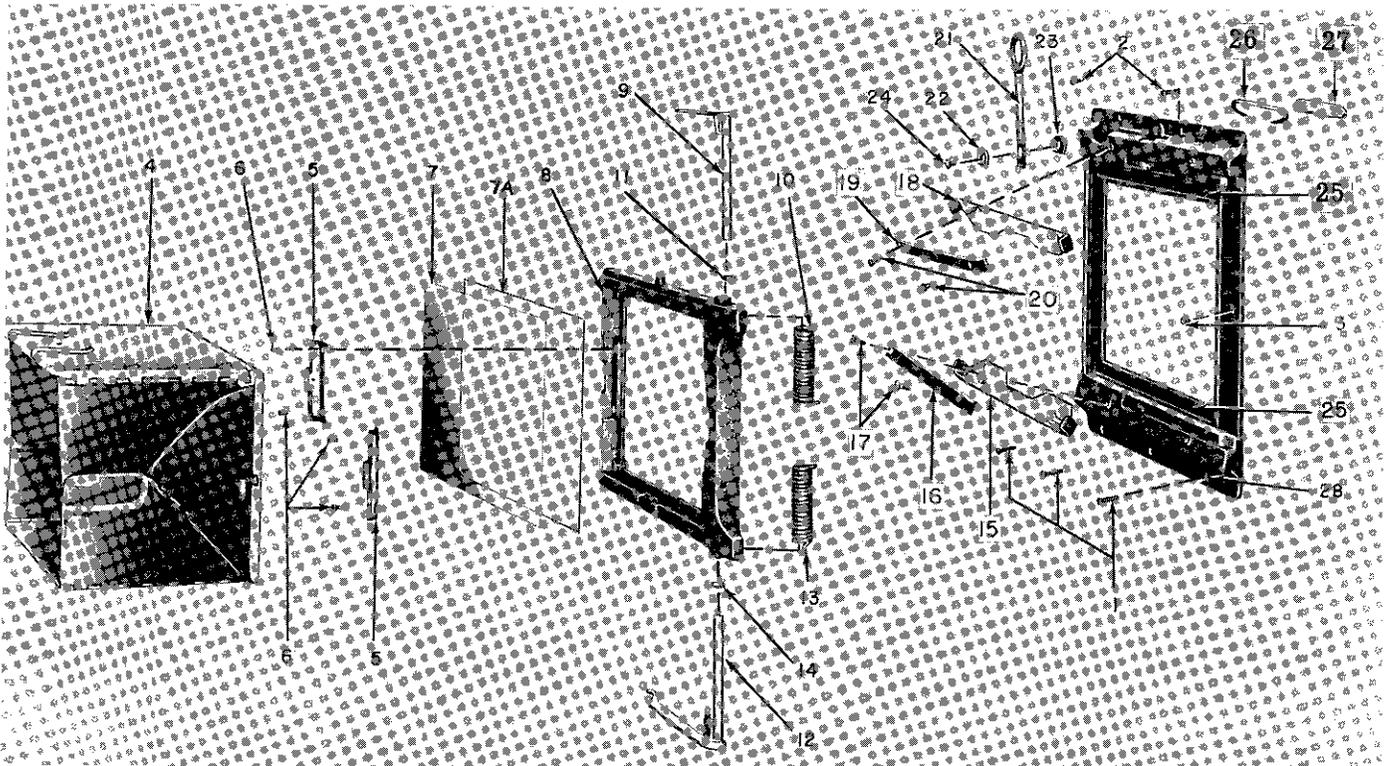

Figure 4. 4 x 5 Graflok Camera Back, Exploded View
1. Remove the focusing panel frame assembly by simultaneously pressing the knurled finger pads of the upper and lower arm assembly (9 and 12, figure 4) and slide the frame to the right, free of the arm hooks.
2. Remove the long self-tapping screws at the bottom (1), short self-tapping screws at the top (2) and one wood screw (3) at the right side, if used.
3. Remove the hood assembly (4) by pressing outward on the tab of the hood retainer (5).
4. Remove the focusing screen (7) and the two hood assembly retainers (5).
2. Check focusing frame (8, figure 4) and back (28) on a machined surface plate. If these parts do not lie flat they must be straightened.
2. Lubricate the slidelocks by wiping both sides lightly with a block of paraffin wax, Federal Specification VV-P-121a. Position the slidelocks (15 and 18, figure 4) so that the slots angle to the left and toward the center. Reassemble the slidelocks, the spring (16 or 19), and the special slidelock screws (17 or 20) so that the screw shoulder fits within the slot of the slidelock.